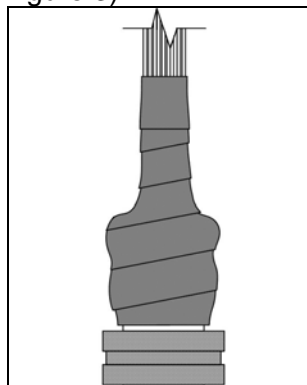

Figure 3
- 3.4.6** Cut off any excess StretchSeal Tape. Follow instructions provided with potting compound for disposal. (see figure 3)